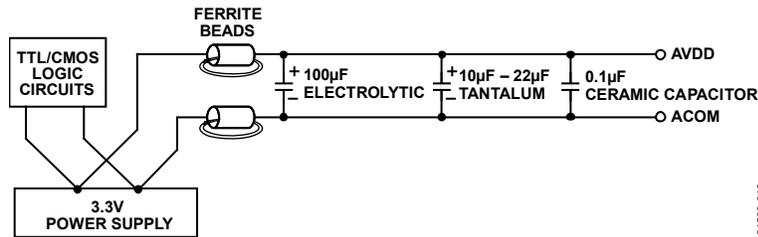

Figure 17. Differential LC Filter for Single 3.3 V Applications
For applications that require a single 3.3 V supply for both the analog and digital supplies, generate a clean analog supply by using the circuit setup shown in Figure 17. The circuit consists of a differential inductor capacitor (LC) filter with separate power supply and return lines. Attain lower noise by using low equivalent series resistance (ESR) type electrolytic and tantalum capacitors.